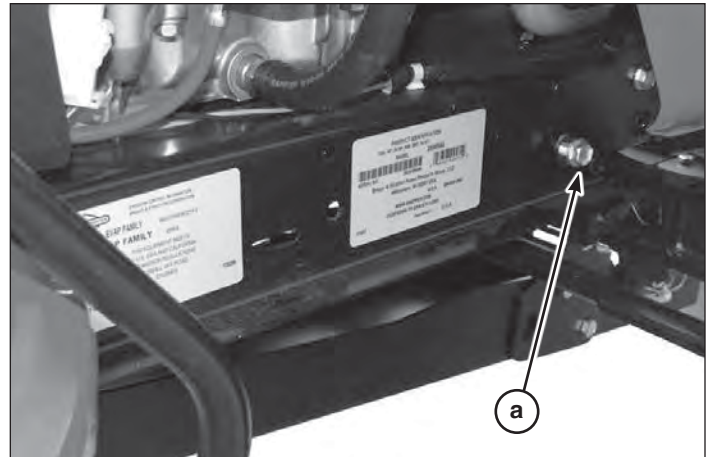

Figure 15
1. Remove the taptite screw (a, Figure 15) from the right side of the tractor frame.